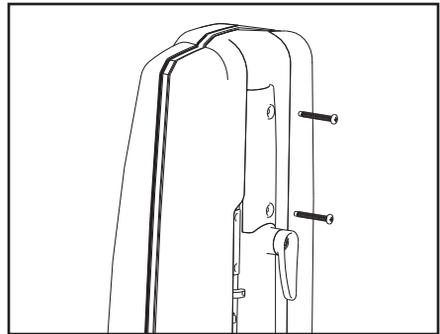

Fig. 2
- Remove the handle bracket by removing the two screws (Fig. 2).